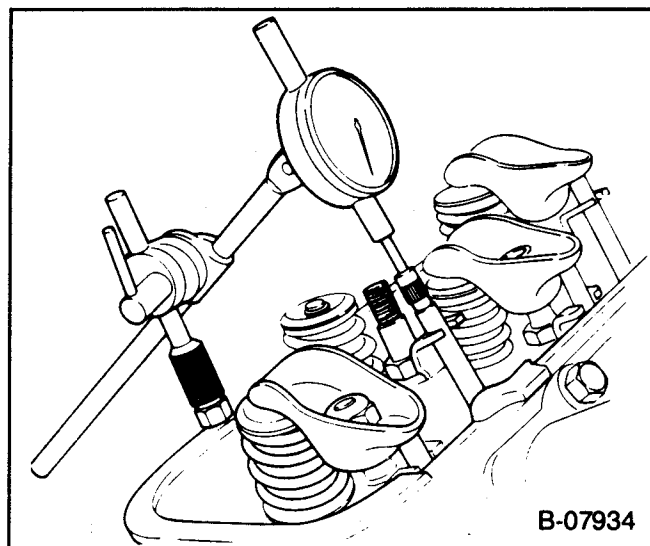

Figure 23—Measuring Camshaft Lobe Lift
2. Refer to figure 23. Position the dial indicator (part of J-8520) so the plunger rests on the pushrod end, as shown. Make sure the pushrod is in the lifter socket.